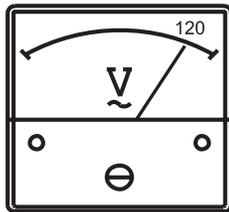

Figure 13. AC Voltmeter
3. Observe that the output voltage either increases or decreases by monitoring the voltmeter (Figure 13) reading.